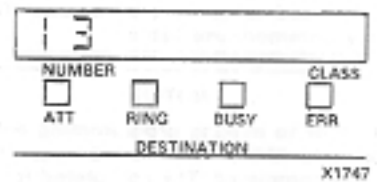

Fig. 243-1 Table Number Display
- \* DESTINATION display shows number entered (Fig. 243-1).
- \* SOURCE display shows the data associated with the table (Fig. 243-1)